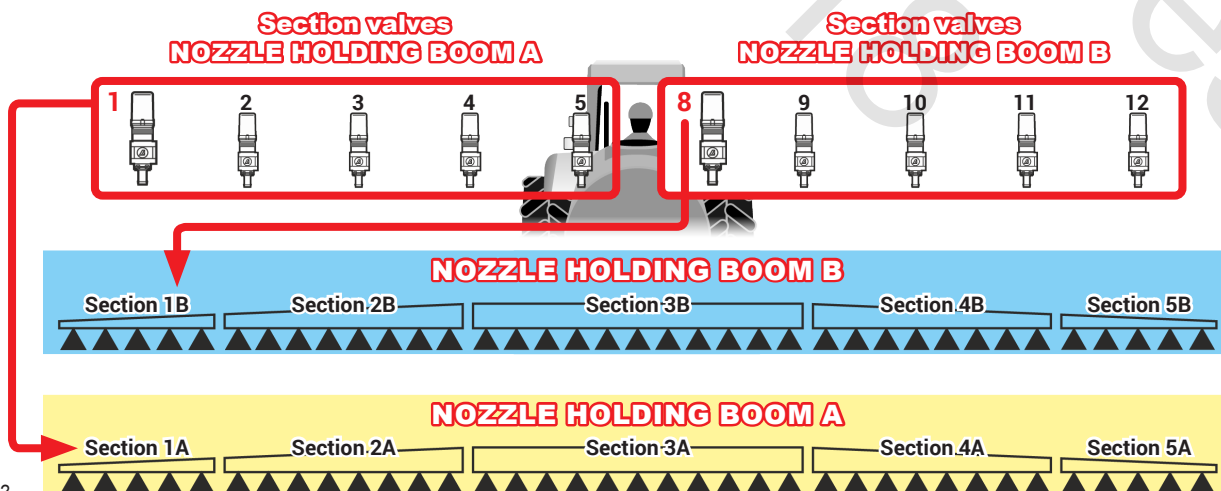

Fig. 22
For all the booms with a number of sections lower than 7, Fig. 22) the connector 8 must ALWAYS pilot the valve connected to the section 1 of the second boom (B): The boom section 1 is the furthest from the machine on the left, looking at the machine from the rear side